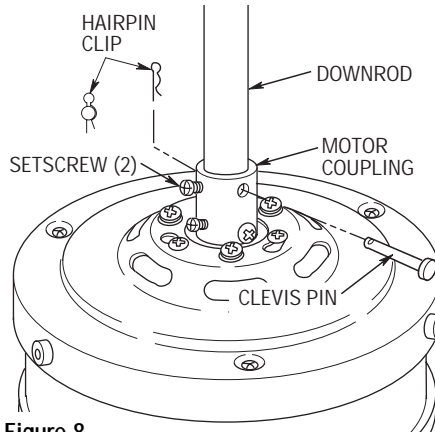

Figure 8
- 11. Unscrew the two upper setscrews (Figure 8) until they clear the inside of the motor coupling. Then separate, untwist and unkink the three 80" motor leads. Route the motor lead wires through the downrod. Align the clevis pin holes in the downrod with the holes in the motor coupling. Install the clevis pin and secure with the hairpin clip (Figure 8). The clevis pin must go through the holes in the motor coupling and the holes in the downrod. Be sure to push the straight leg of the hairpin clip through the hole near the end of the clevis pin until the curved portion of the hairpin clip snaps around the clevis pin. The hairpin clip must be properly installed to prevent the clevis pin from working loose. Pull up on the downrod to make sure the clevis pin is properly installed.
**It is critical that the clevis pin in the motor coupling is properly installed and the setscrews securely tightened. Failure to verify that the pin and setscrews are properly installed (as shown in Figure 8) could result in the fan falling.**
- 12. Tighten the setscrews (Figure 8) securely while pulling up on the downrod.